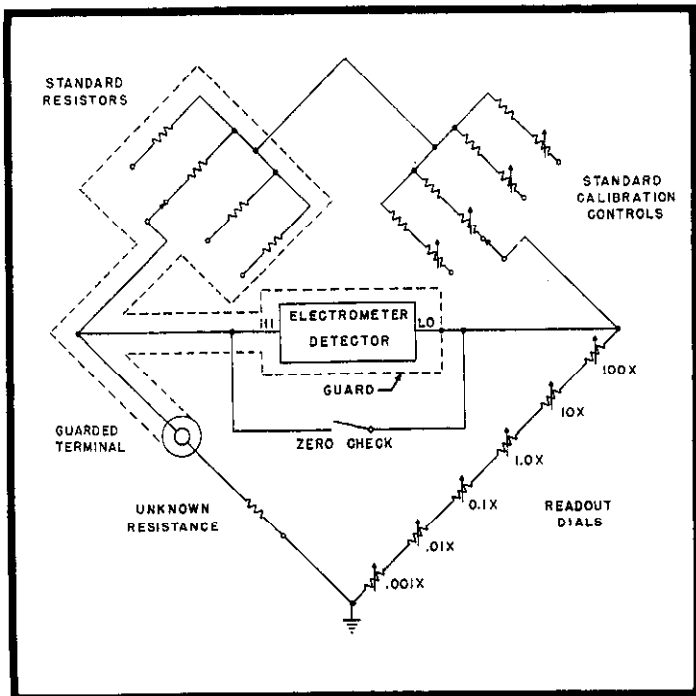

FIGURE 4. Guarding
1. Theory. In megohm bridge design, care must be taken to guard the high-resistance arm so that insulation leakage currents will not affect the balance point. Guarding in the Model 515A is shown in Figure 4. The guard enclosure is indicated by the dotted-line surrounding the high megohm STANDARD resistors, the electrometer null detector, and the guarded input terminal. The input high terminal utilizes a "guard ring" maintained approximately at the potential of the null detector low.